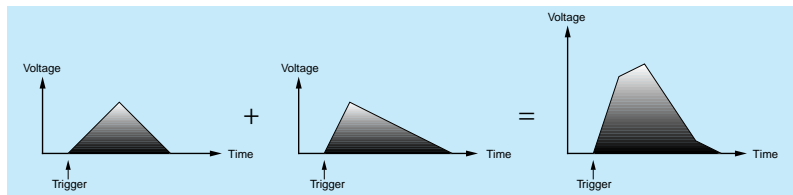

Figure 4: Applying two simple transients to the same modifier.
► So now we are in a position to apply some standard terminology to Figure 1. The first stage is the Attack of the transient, and the second stage is its Decay. The figure represents, therefore, a functional 'AD' transient generator. Simple as these devices appear, you should not underestimate the power of AD generators. Figure 4 (opposite) shows what happens when you apply two dissimilar AD contours to a single modifier such as a VCA or VCF. As you can see, the envelope generated by the summation of the two contours is a more complex 4-stage contour. Furthermore, it's one that you cannot obtain from what is commonly called a 4-stage ADSR envelope generator. Food for thought, huh?
Figure 4 shows what happens when you apply more than one transient to a single parameter at any given time. But that's just one plot in this month's story. There's a second, and it's related to what happens when we play more than one note sequentially...